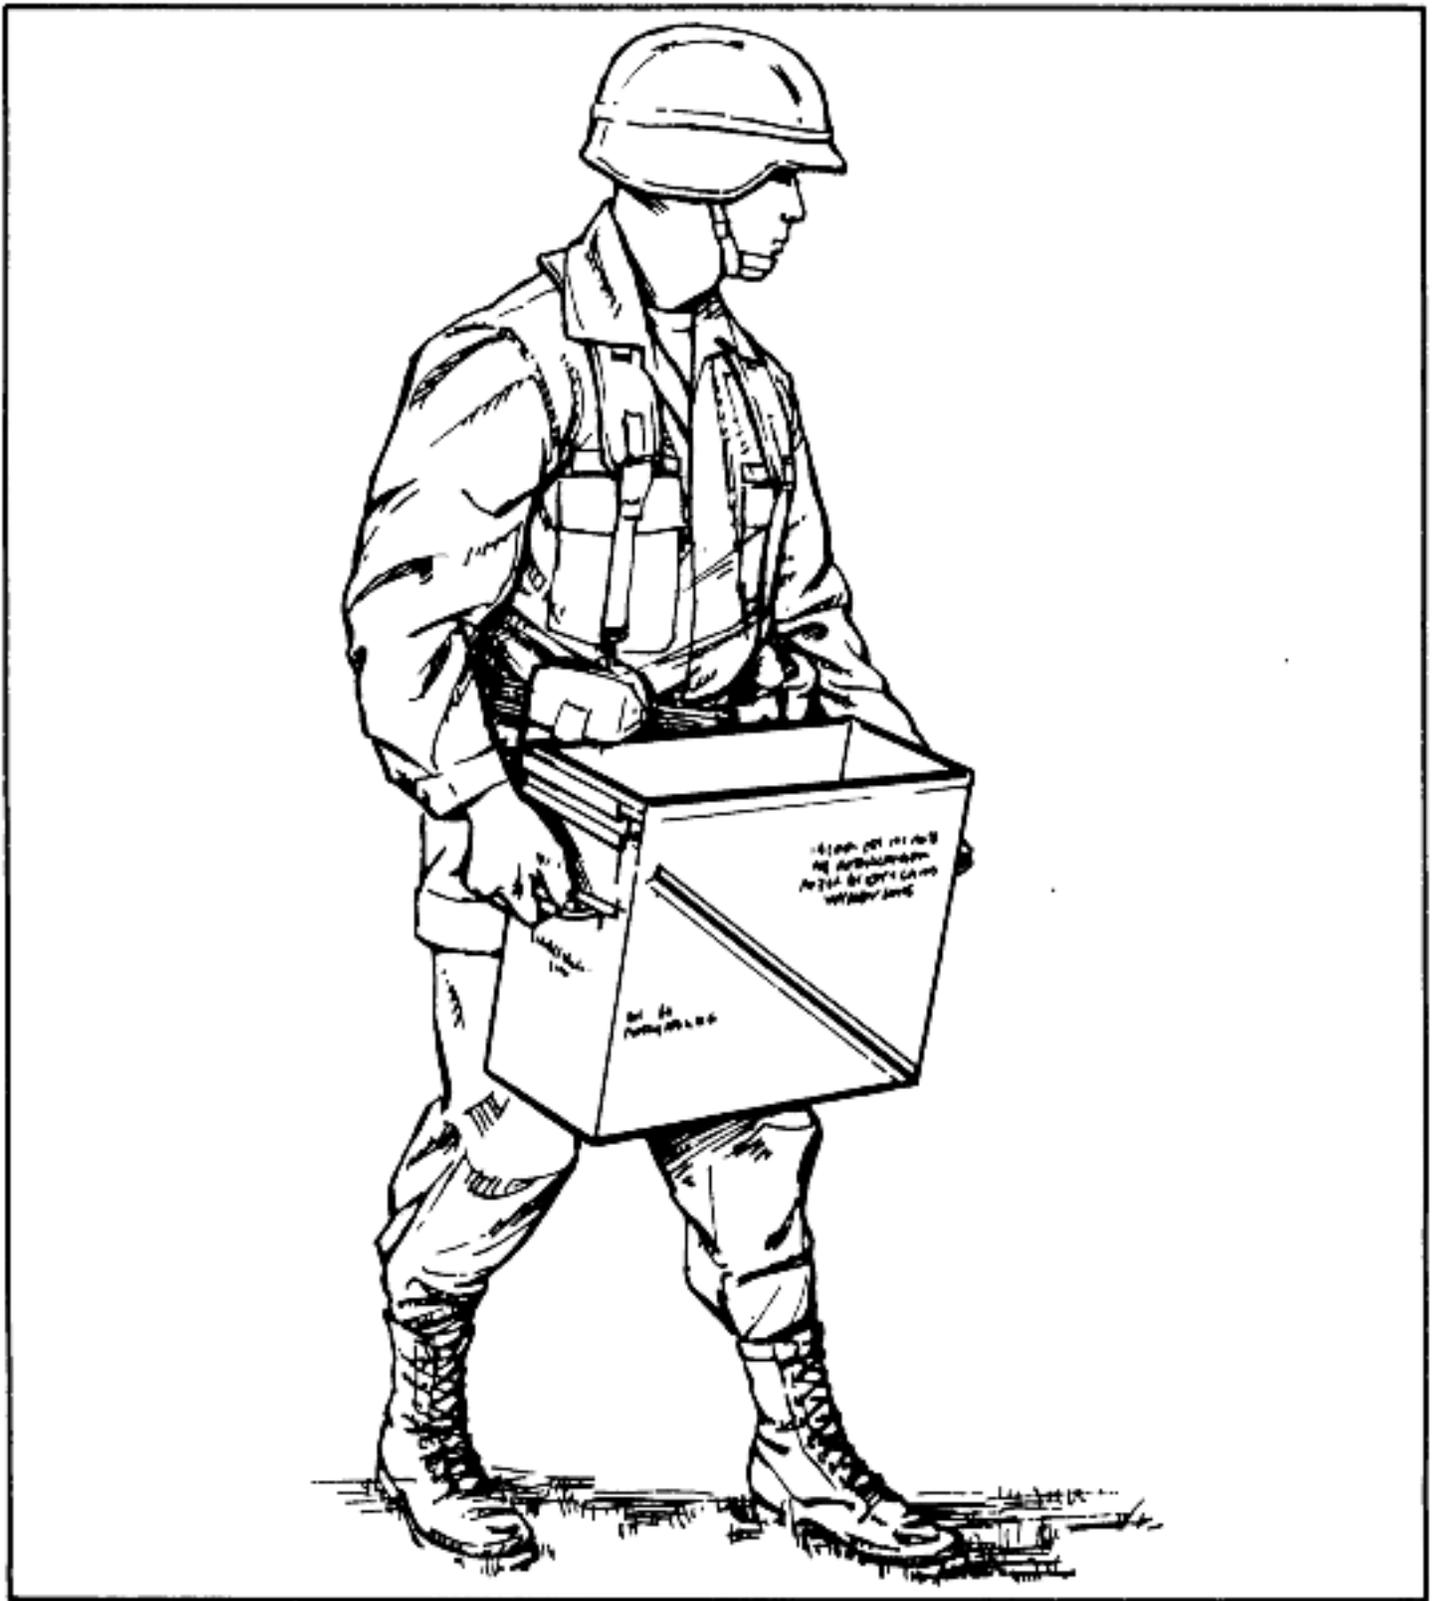
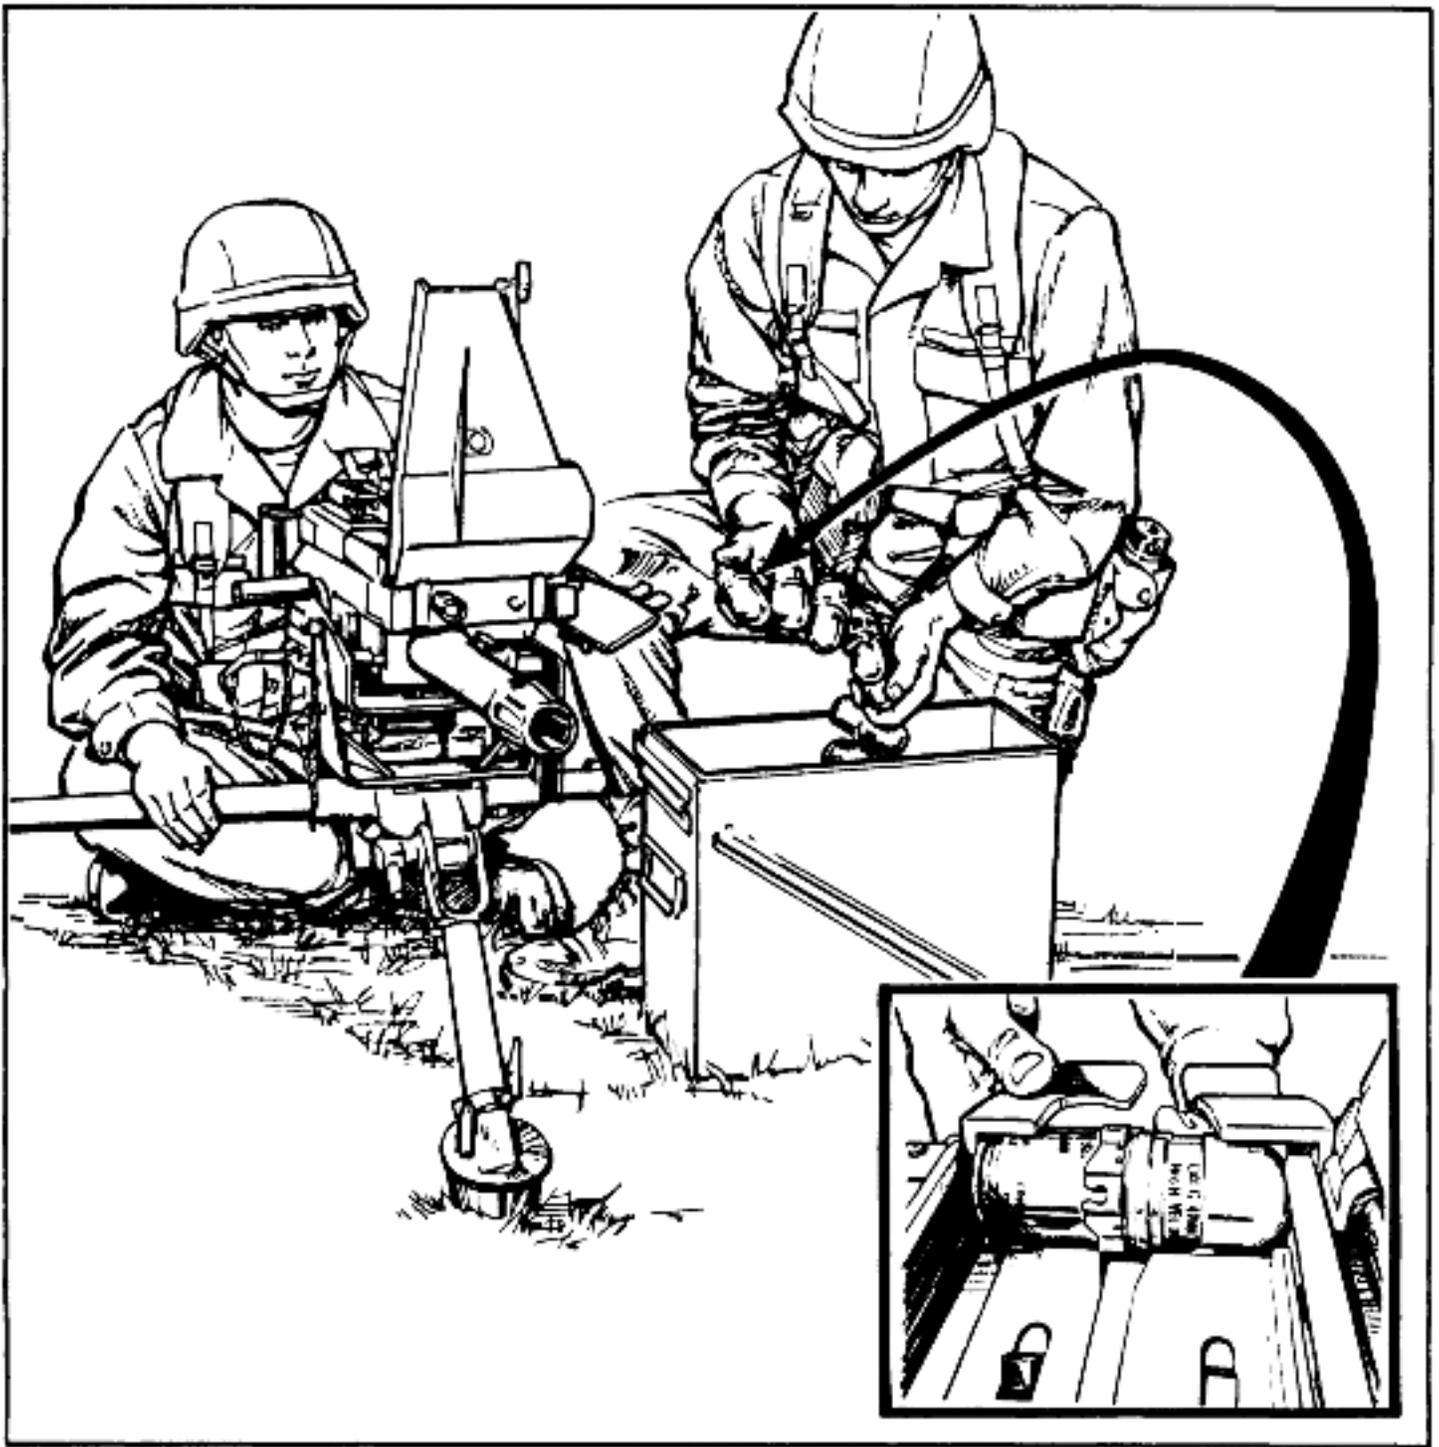

Figure 4-8. Ammunition bearer with ammunition can.
Figure 4-9. Alignment of ammunition belt.
(3) The ammunition bearer carries the can of ammunition to the MK 19 position (Figure 4-8). He takes the lid off and ensures the ogive ends of the rounds are pointed downrange (Figure 4-9). He gives the can to the assistant gunner. The ammunition bearer returns to the ammunition point and stands by to do whatever is needed to complete the mission.